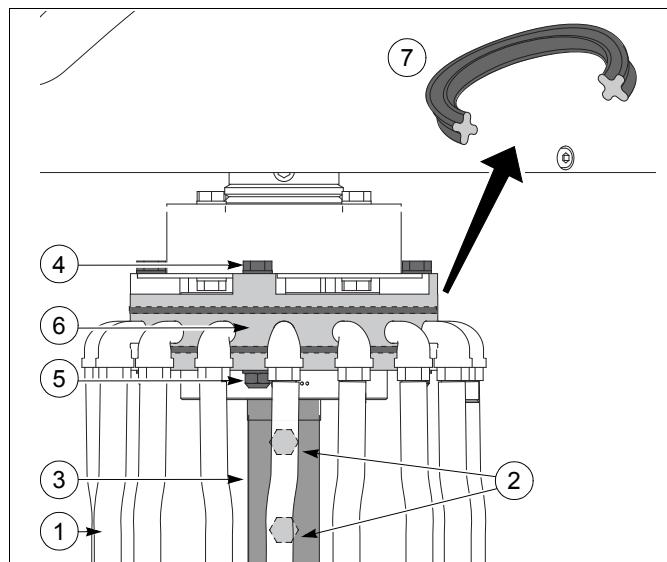

fig. 43 Replace the Quad Rings
7. Fit distribution head **6**, sleeve **3** and hoses **1**. See fig. 43.